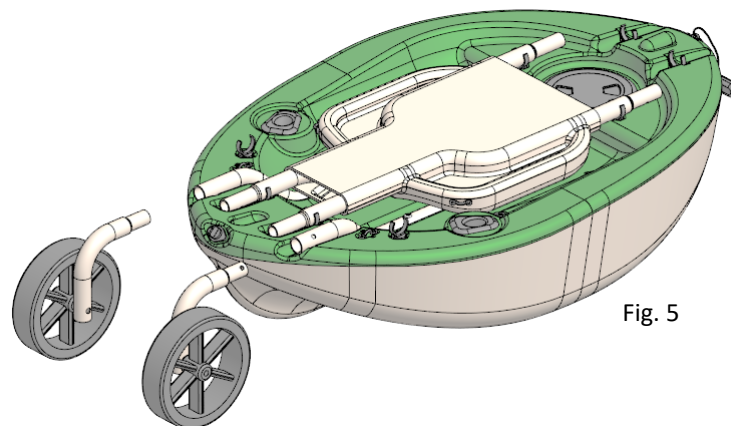

Fig. 5
- 5) Turn the **MID FRAME** over with the seat facing down and snap it into the four clips that are provided for it on the **BACK FLOAT** (fig.5).